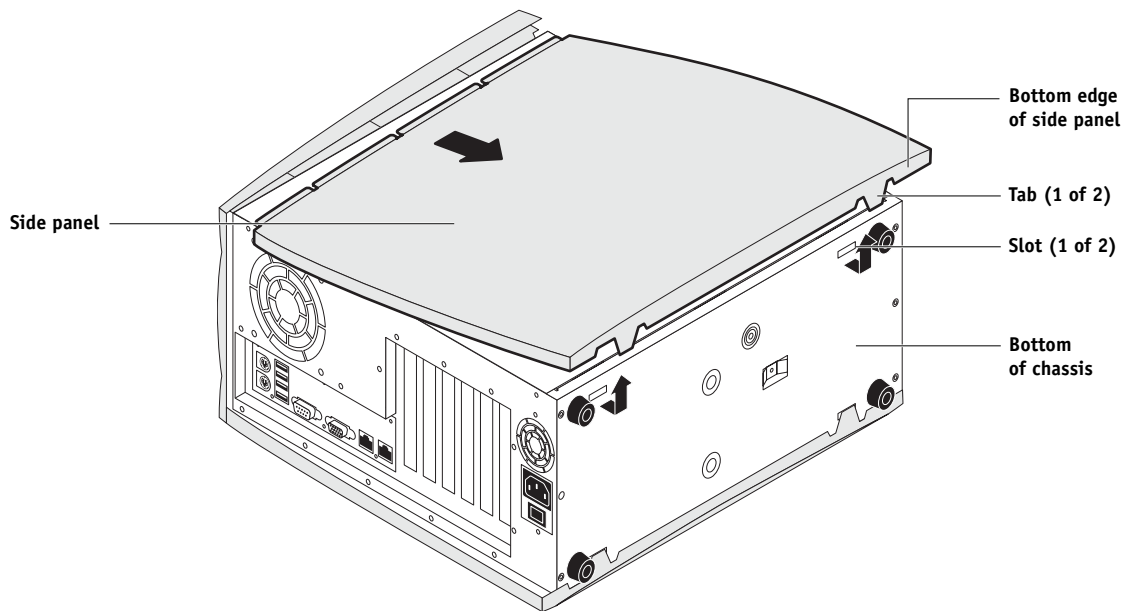

FIGURE 4-2 Removing the side panel
2. Position the iR-M3 so that it is resting on its side on a flat, anti-static surface (see Figure 4-2).